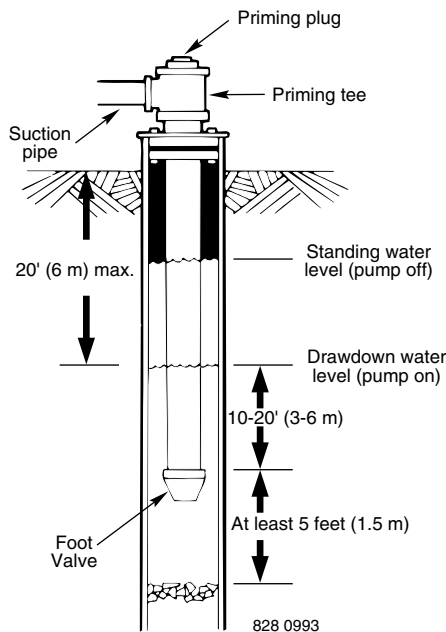

Figure 1: Cased/Dug Well Installation
- Step 5. When using foot valve, a priming tee and plug are recommended. (Fig. 1).
NOTICE: For long horizontal pipe runs, install a priming tee between check valve and well head (Fig. 1). For driven point installations, install check valve. Be sure that check valve flow arrow points **toward** pump.